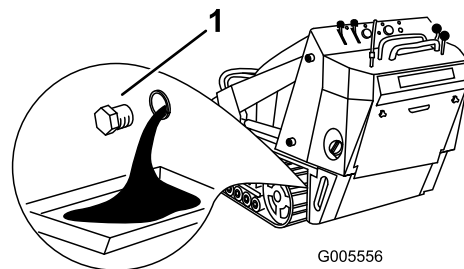

Figure 37
4. Remove the drain plug (Figure 37).